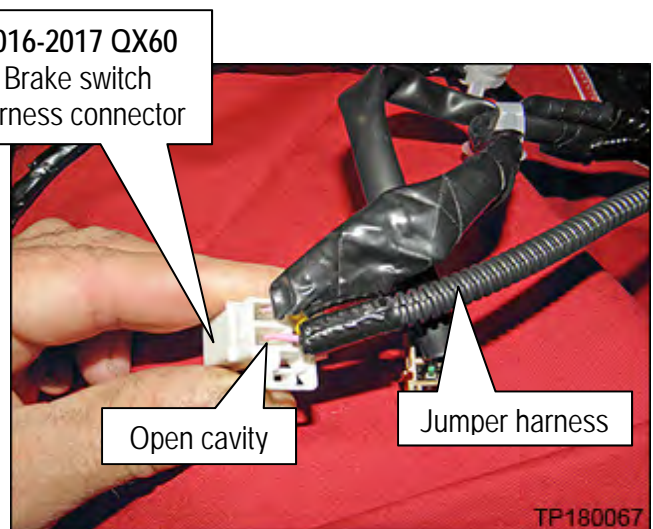

Figure 51
- For 2016-2017 QX60: Insert the single pink jumper wire connector into the open cavity of the harness side of the brake switch harness connector as shown in Figure 51.